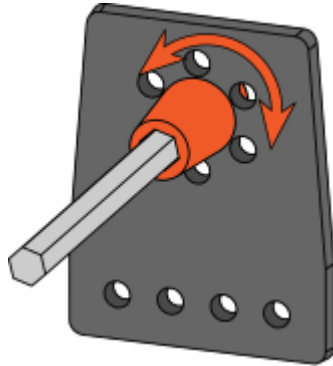

Figure 6: Plastic Bearing in a Motion Bracket
The REV Robotics 15mm Extrusion Building System uses plastic acetal (Delrin/POM) molded bearings. These bearings have a maximum 9mm outer diameter (OD) which fit inside the 9mm inner diameter (ID) hole in the all the motion brackets (Figure 6).